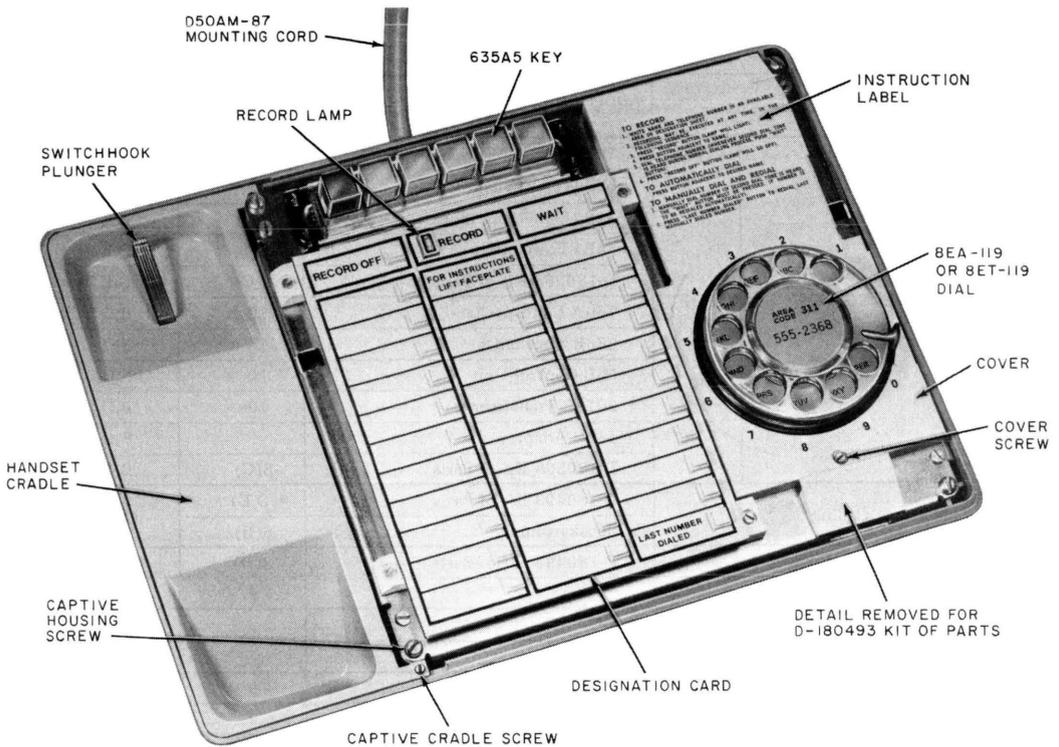

Fig. 2—872A1M Telephone Set—Faceplate and Handset Removed
2.06 Operating Features (Fig. 2):
- Line key (635A5), 6-button key. Hold with five line pickup buttons which are convertible to nonlocking. A switch has been attached to the standard key to reset the logic circuit anytime a key button is depressed.
3.05 The designation card (Fig. 2) is installed by removing the faceplate (3.17) and aligning the holes in the card with the buttons of the repertory assembly and laying it on the telephone set. The memory buttons and faceplate hold the designation card in its proper position. Additional cards are provided in the designation card set, 840393672. These should be left with the subscriber.